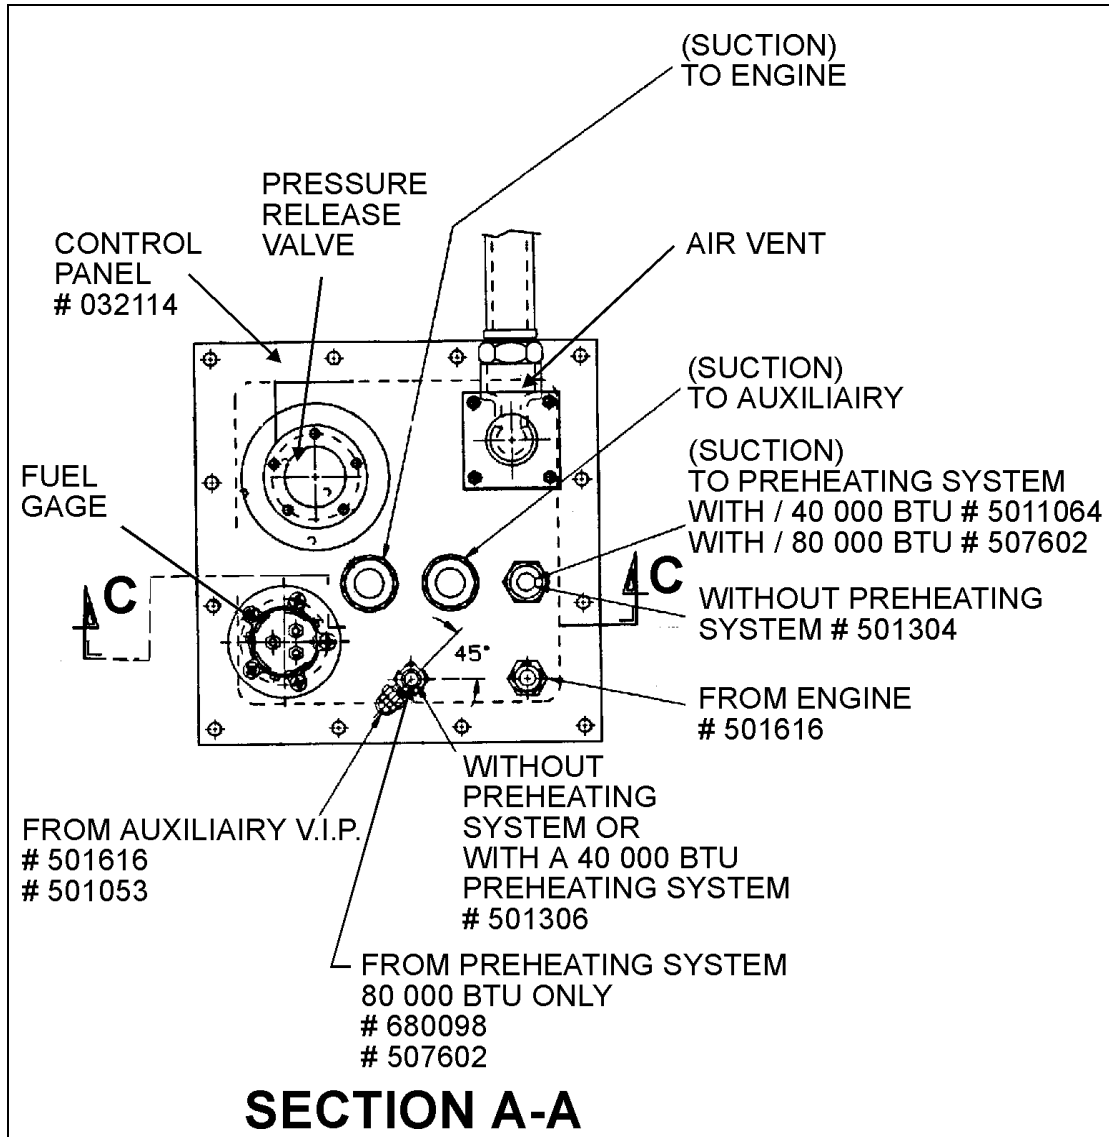

FIGURE 2
- Where applicable, install the following adapters on fuel tank control panel : preheater supply line, auxiliary return line and engine return line (Fig. 2).
- Install plug on "from (Prévost # 501306) and to (Prévost # 501304) preheating system" port (Fig. 2).
- Install plug (Prévost # 501306) on "from preheating system" port (Fig. 2).